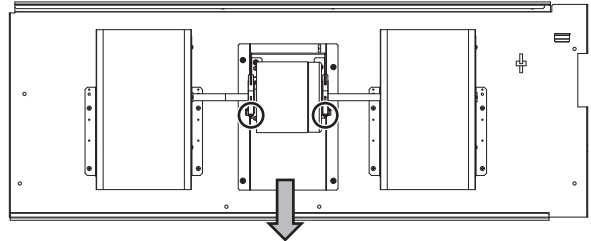

Fig.5
- (2) Remove the two fixing screws and attachment on the fan motor (Fig. 5).
- (3) Pull out the fan motor in the direction of the arrow (Fig.5).